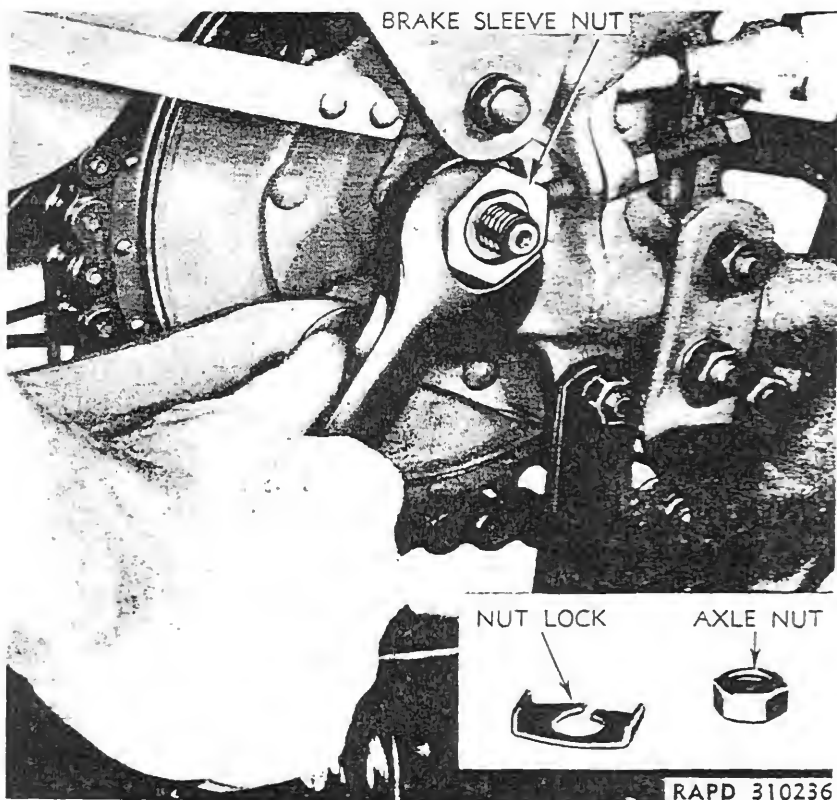
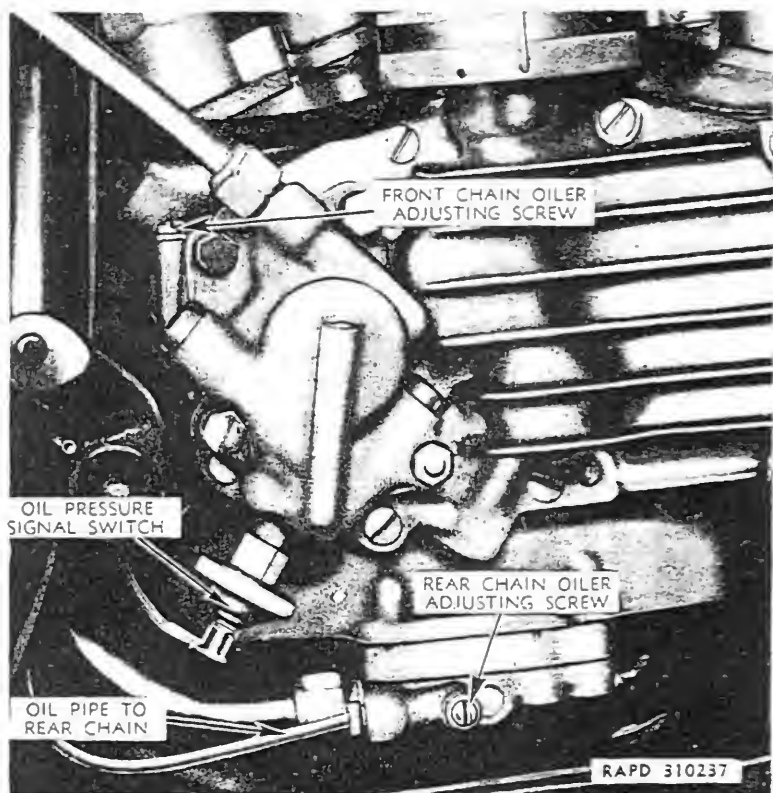

Figure 39—Brake Sleeve Nut
Figure 40—Chain Oilers
60. ADJUST REAR CHAIN AND ALINE REAR WHEEL (fig. 39).
- (1) Remove rear axle nut and lock washer (right side of vehicle).
- (2) Loosen brake sleeve nut enough to allow brake assembly to slide backward or forward in frame mounting (fig. 39).
- (3) Loosen the two (right and left side) rear wheel adjusting screw lock nuts.
(4) Turn wheel adjusting screws clockwise (to right) to move wheel and sprocket backward. This tightens chain. *NOTE: If chain is too tight, turn wheel adjusting screws counterclockwise (to left) so that wheel can be shifted forward. This will loosen chain.* Always turn the two wheel adjusting screws an equal number of turns in order to keep wheel alined.
(5) Check correct alinement of wheel by noting that tire (not tire rim) runs approximately midway between lower rear frame tubes at the point where tubes join transmission mounting. It is desirable to have tire run slightly closer (not more than $\frac{1}{16}$ in.) to right than to left side lower tube. A further check of alinement is observing that rear sprocket runs centrally in chain. *CAUTION: If rear wheel is not correctly alined, vehicle steering will be affected, and sprockets will wear excessively on one side.*
(6) With adjustment of chain and wheel alinement completed, securely tighten wheel adjusting screw lock nuts, and brake sleeve nut; replace axle lock washer and nut, tightening nut.
(7) Recheck adjustment of chain as tightening brake sleeve nut and axle nut sometimes changes the chain adjustment.
(8) After tightening rear chain, rear brake may be found too tight. Check and correct brake adjustment (par. 96).
61. CHAIN OILERS (fig. 40).
(1) Add thin (0.002-inch thick) washer under head of front chain oiler adjusting screw (fig. 40). Do not remove any washers already under head of screw.
(2) To check results, refer to step b above.
(1) To adjust oiler, remove thin (0.002-inch thick) washer from under head of front chain oiler adjusting screw (fig. 40).
(1) Adjust oiler by adding thin (0.002-inch thick) washer under head of rear chain oiler adjusting screw (fig. 40). Do not remove any washers already under head of screw.
(1) To adjust oiler, remove thin (0.002-inch thick) washer from under head of rear chain oiler adjusting screw (fig. 40).
g. At 1000-mile intervals, loosen both front and rear chain oiler adjusting screws (fig. 40) two turns each. Do not remove screws. Start and idle engine 1 minute, then tighten screws firmly, but do not force. This operation serves to flush oiler control valves and rear chain oiler pipe.